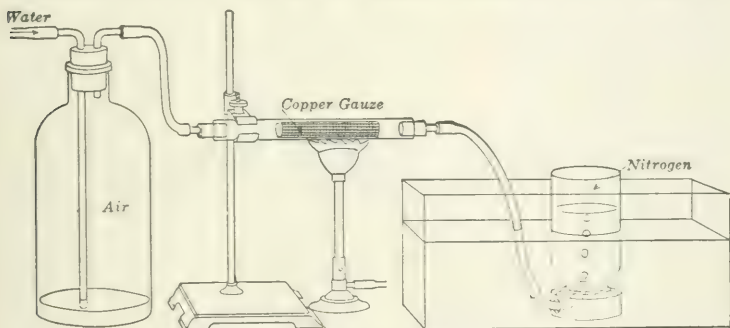

Fig. 36. Passing air over hot copper.
**a. Preparation.** Since the oxygen of the air combines readily with hot copper and the nitrogen does not, it is easy to obtain nitrogen from air. Set up the apparatus as shown in figure 36.